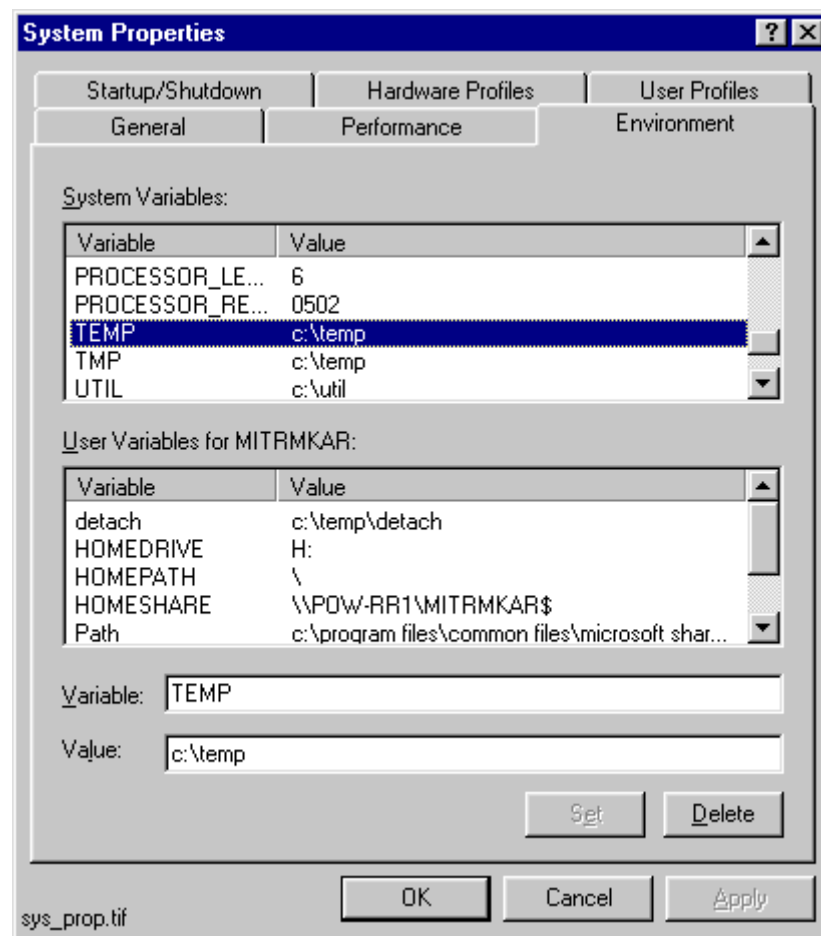

Fig. 7.13.2.-1 TEMP environment variable setting
2. Choose the Environment page as shown in Figure 7.13.2.-1 and locate the TEMP variable from one of the lists. The setting may be defined both as a System and a User variable. If found, the User variable setting overrides the respective System variable setting.